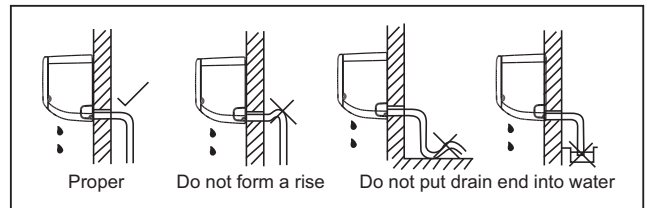

Fig. 15 – Proper Drain Hose Installation
- Connect the drain line. The drain line must not have a trap anywhere in its length, must pitch downwards, and must be insulated up to the outside wall (see Fig. 15).